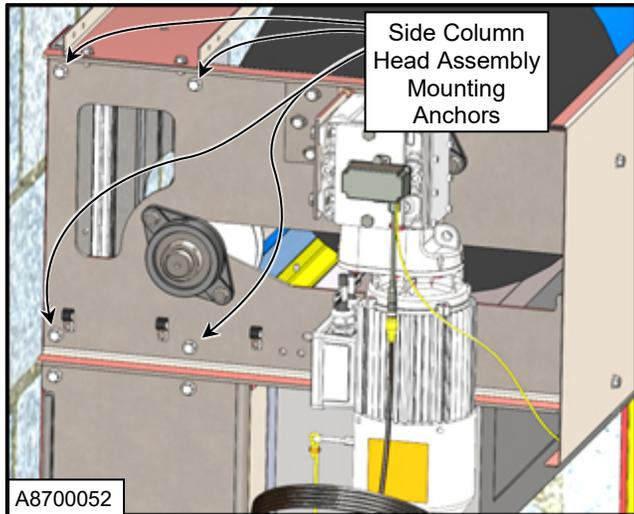
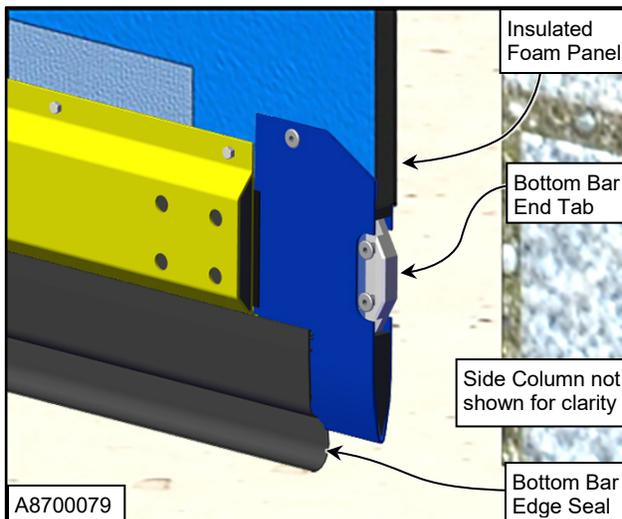

Figure 18
Figure 23
Make sure all nuts, bolts, set screws, and anchors are tight throughout the door. Example: motor mounting bolts, wall mounting hardware, floor anchors, shaft set screws, etc. (See Figure 18 - Figure 23)
1. Inspect the entire length of the weather seal for wear and damage. Replace if necessary. (See Figure 23)